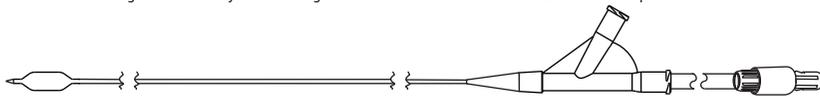

Figure 1: Venex Pulse IVL Catheter
The VENEX PULSE intravascular Lithotripsy Catheter is a proprietary lithotripsy device delivered through the coronary arterial system of the heart to the site of an otherwise difficult to treat calcified stenosis, including calcified stenoses that are anticipated to exhibit resistance to full balloon dilatation or subsequent uniform coronary stent expansion. The IVL Catheter contains integrated lithotripsy emitters for the localized delivery of acoustic pressure pulse therapy. The lithotripsy technology generates acoustic pressure pulses within the target treatment site, disrupting calcium within the lesion allowing subsequent dilatation of a coronary artery stenosis using low balloon pressure. The system consists of the IVL Catheter, IVL Connector Cable and IVL Generator. The Venex Pulse IVL Catheter is available in four (4) sizes: 2.50x12 mm, 3.00x12 mm, 3.50x12 mm, and 4.00x12 mm. The Excedo IVF is compatible with a 6F guiding catheter and extensions, has a working length of 138 cm, and shaft depth markers at the proximal end. The catheter is coated with hydrophilic coating to 22.75 cm from the distal tip to reduce friction during device delivery. Refer to Figure 1 below for the Venex Pulse IVL Catheter components.